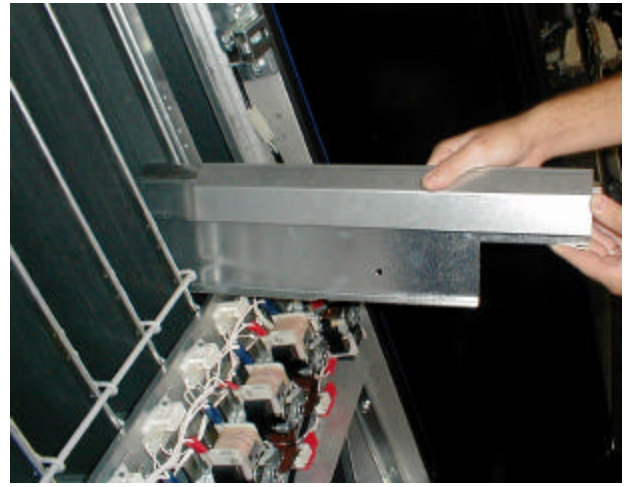

Figure 2
3. Install can stop shim with shim angle on right side of column wall. (See figure 2, page 2.)